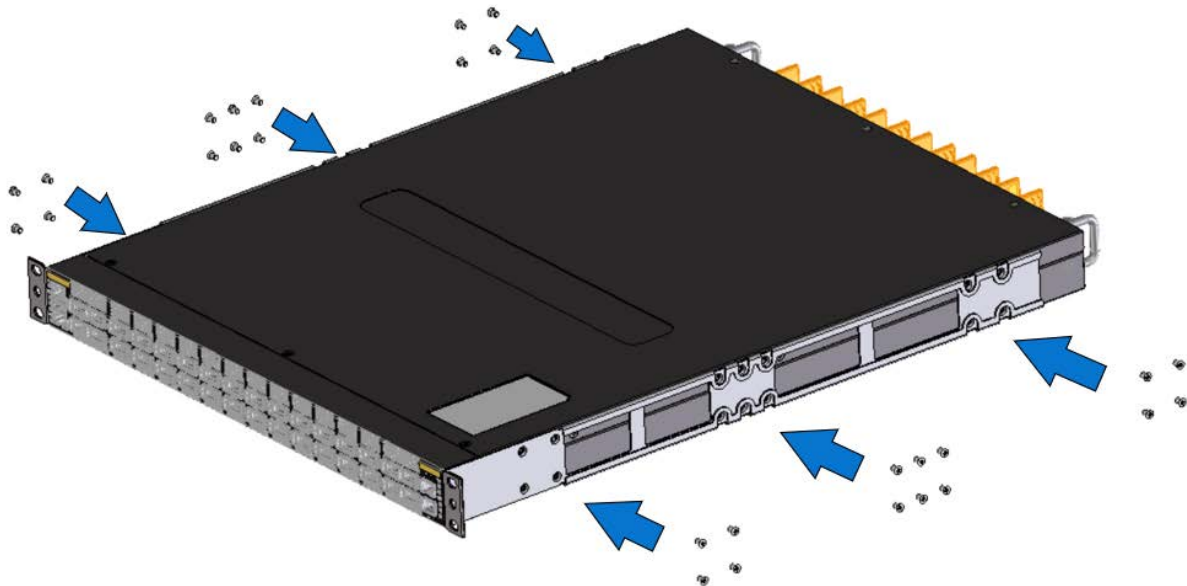

Figure 20. Attaching the Front Rail Brackets to the Switch
3. Attach the front rail brackets to the sides of the switch with the 28 M4 screws as shown in Figure 20 on page 52.